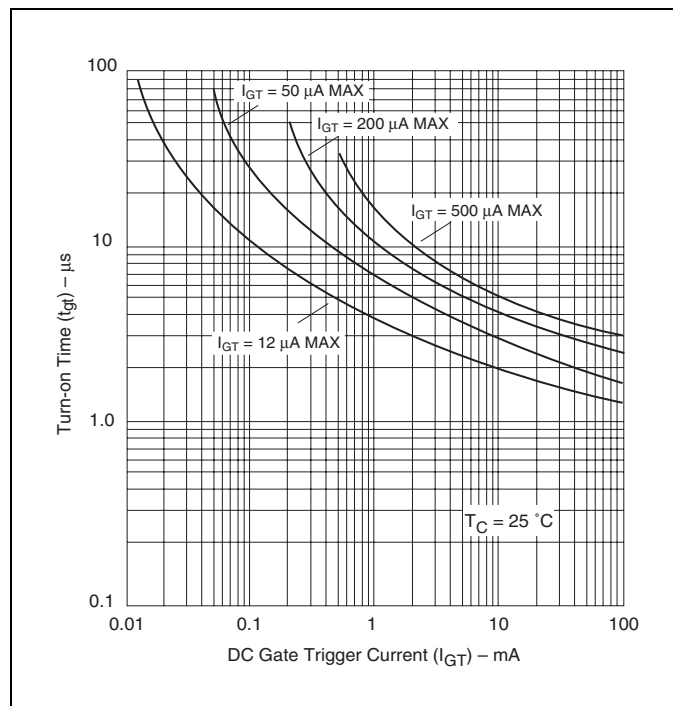
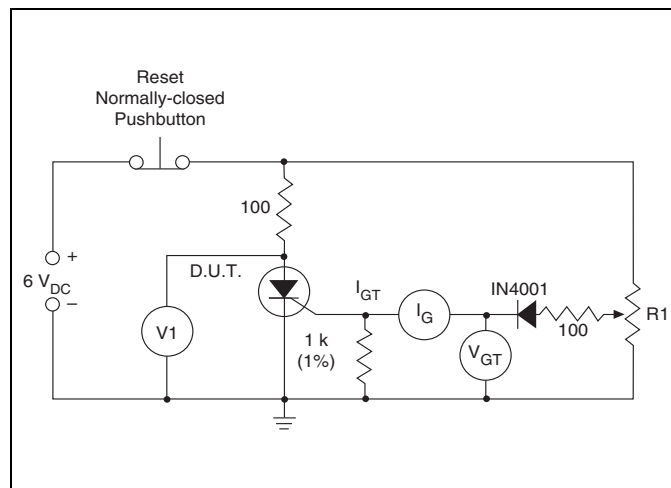

Figure E5.15 Typical Turn-on Time versus Gate Trigger Current
Figure E5.19 Simple Test Circuit for Gate Trigger Voltage and Current Measurement
- (8) See Figure E5.15 for t_{gt} versus I_{GT} .
- (9) Test conditions as follows:
- (10) Test condition is maximum rated RMS current except TO-92 devices are 1.2 A_{PK} ; T106/T107 devices are 4 A_{PK} .
- (11) See package outlines for lead form configurations. When ordering special lead forming, add type number as suffix to part number.
- (12) $V_D = 6 \text{ V}$ dc, $R_L = 100 \Omega$ (See Figure E5.19 for simple test circuit for measuring gate trigger voltage and gate trigger current.)